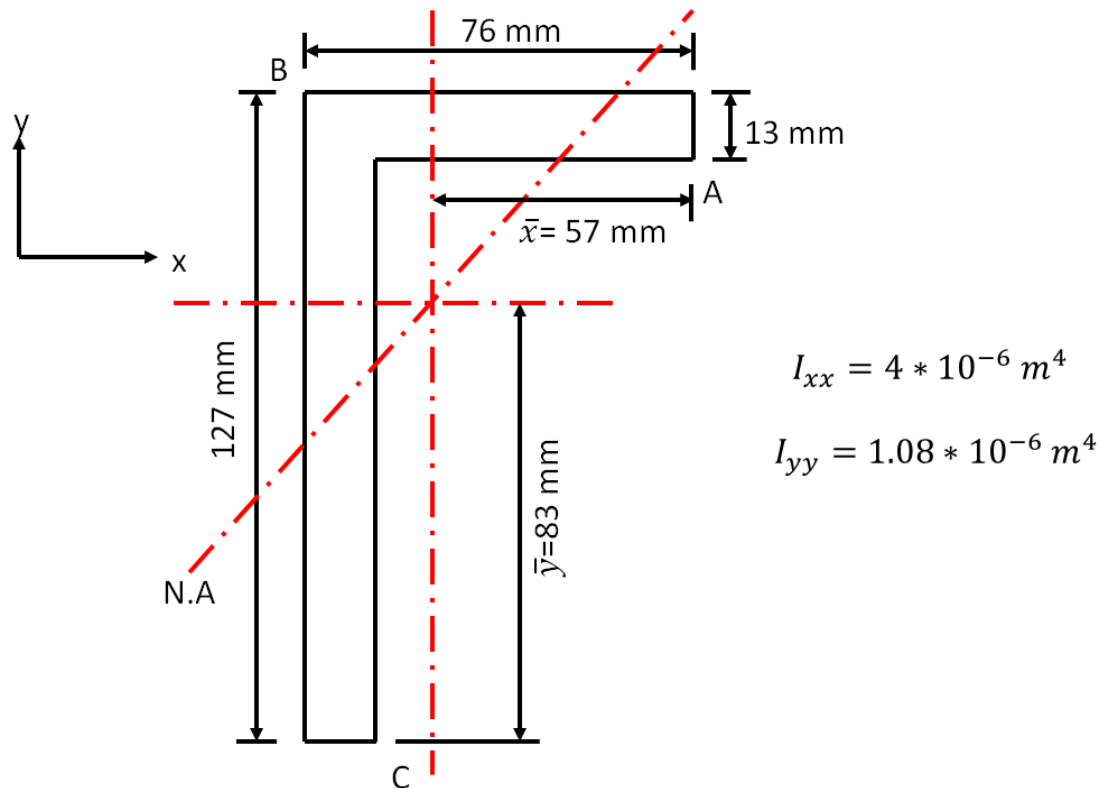

Fig. Q 3
- a) A cantilever of length 1.2 m and of the cross section shown in Fig. Q 3 carries a vertical load of 10 kN at its outer end, the line of action being parallel with the longer leg and arranged to pass through the shear center of the section i.e. there is no twisting of the section. I_{xx} and I_{yy} are as shown in the figure.